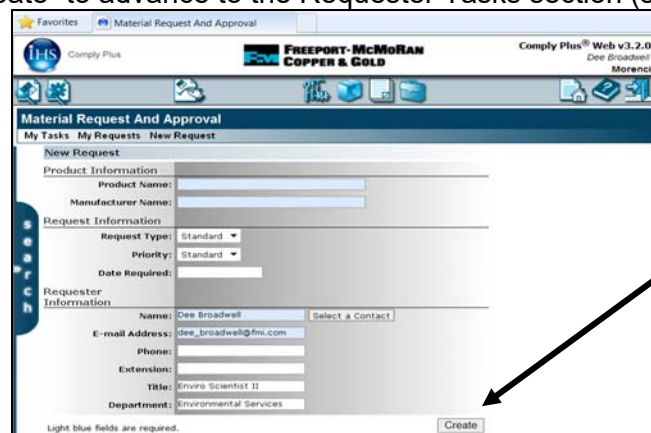

Figure 8
3. New Request entry page appears (see Figure 8). Start by completing the following in the appropriate fields:
4. Click “Create” to advance to the Requester Tasks section (see Figure 8).